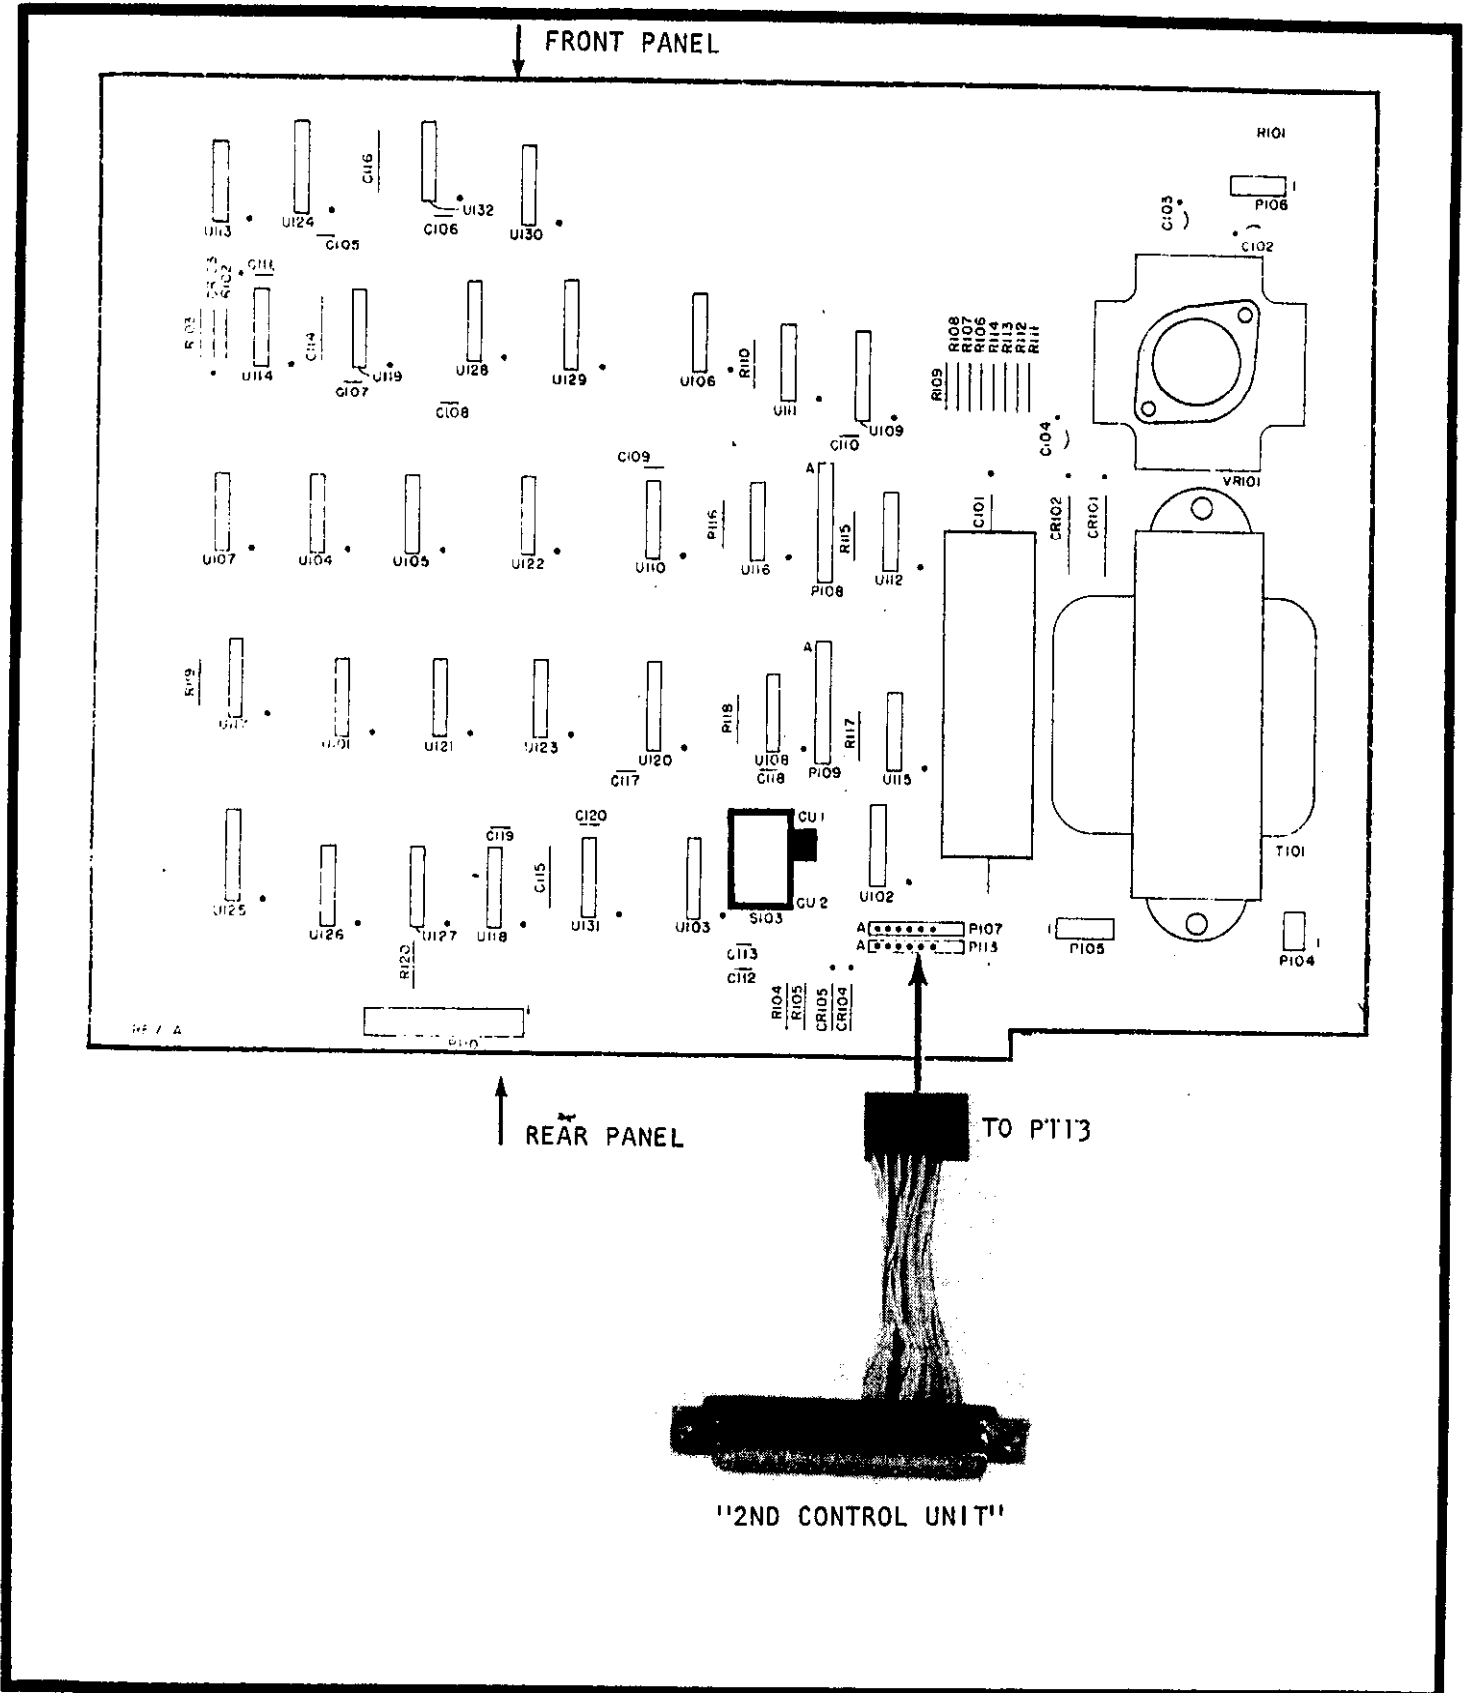

FIGURE 4. Installation of Dual Control Unit Coupler (Model 7819-DCC).
c. 2ND CONTROL UNIT (Spare opening). This opening is used when modifying a Control Unit for use in a System 1/782. When shipped from the factory the Control Unit has a cover plate (part no. 26864) over the opening. When a Dual Control-Unit Coupler is installed on the Control Unit the cover plate must be removed and replaced with a 37-pin receptacle. See Table 2-4 and Figure 4.
5. Install Berg housing (8-pin) as shown in Figure 4.